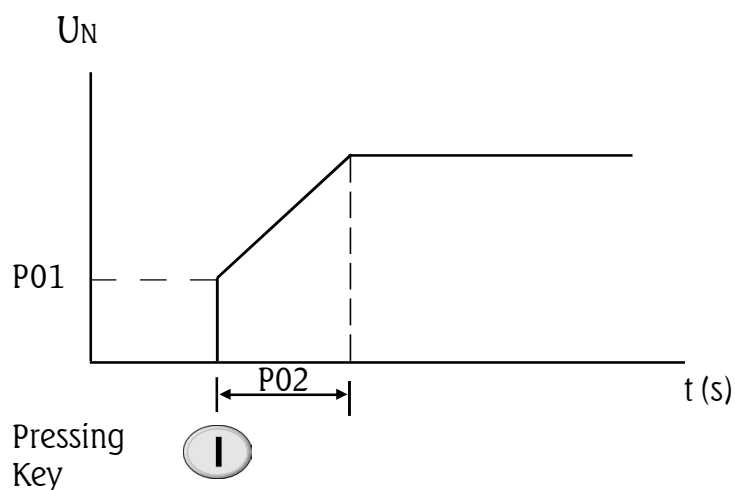

Figure 6.1- Acceleration Ramp
- ☑ It adjusts the initial voltage value (% U_N) which will be applied to the motor according to Figure 6.1.
- ☑ If defines the time of the voltage a ramp, as shown in figure 6.1, provided the Soft-Starter does not enter in current limitation (P11).